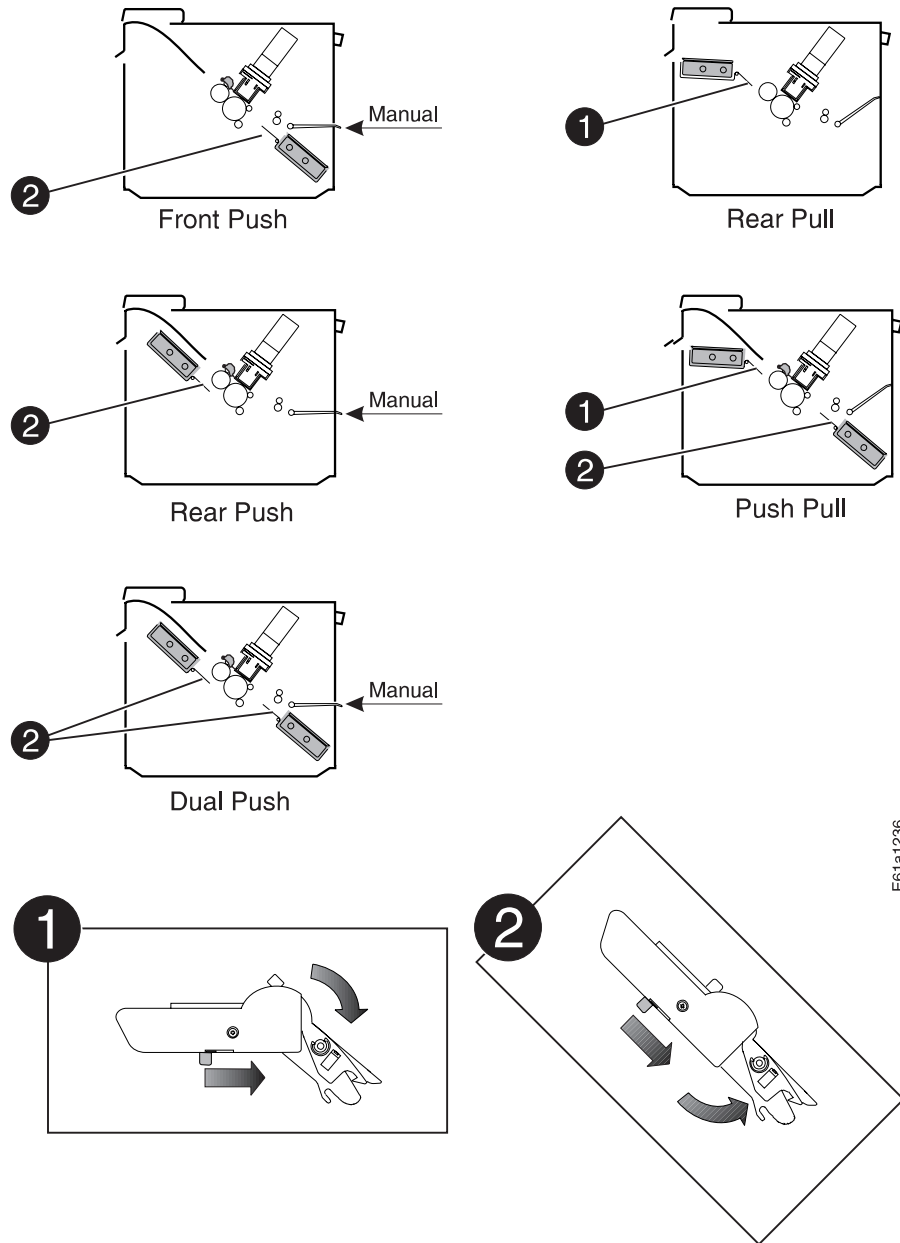

Figure 29. Setting Forms Tractors
See Table 10 and Figure 29 on page 51 for the correct tractor settings for each forms path.
Table 10. Setting the Tractors. Numbers in Table Match Numbers in Figure 29 on page 51.
Set the forms tractors to Position 1 or Position 2 for your forms path, as shown in Figure 29 on page 51.
1. With the forms tractor positioned as shown in Figure 29, move the release levers in the direction indicated and move the edge of the forms tractor to the new position.